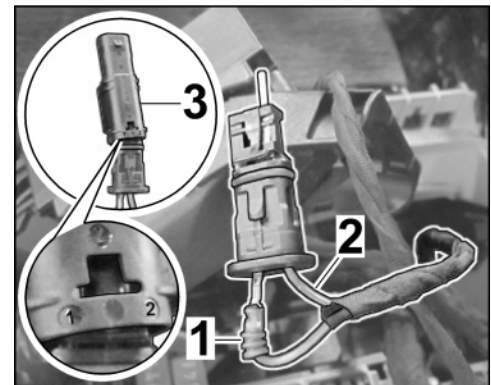

Figure 27
2.5.2 Connect CAN lines with pin contact/single-wire seal (wire harness for engine noise control unit/pulse sender) in the pin connector socket as follows (⇒ *Figure 27*):